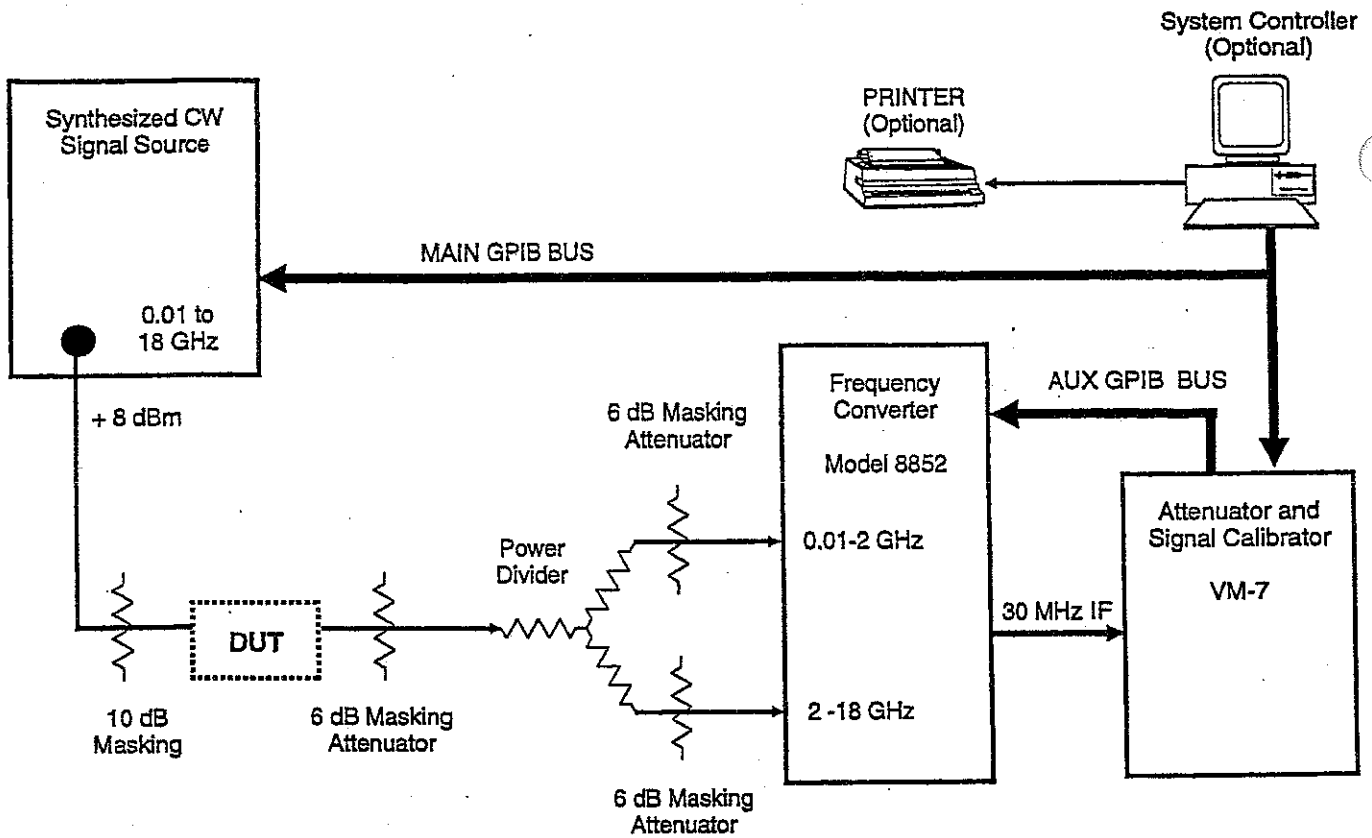

Figure 1-2. 0.01 - 18 GHz System Configuration
**1-2.2 APPLICATIONS.** Figure 1-2 depicts a system setup for performing component measurements across the 0.01 - 18 GHz frequency band without changing any connections on the Model 8850 front panel. This setup gives the user the widest measuring frequency range possible (Refer to Section III for details).
**Option 01** - The 01 option adds a Synthesized CW Signal Source and a accessory kit of Weinschel Corporation low SWR masking attenuators and power divider to provide a measurement system as shown in Figure 1-2. The result is a measurement system that leads the field in performance, at a price compatible with production test as well as calibration laboratory budgets.